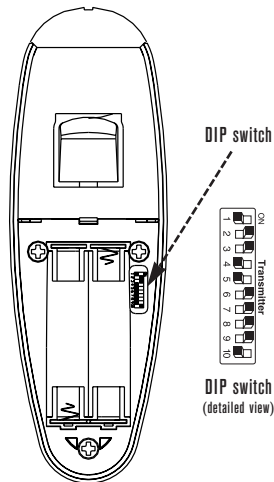

Figure 13
The DIP switch for MX2(L), MX3(L), MX4(L), and MX4A(L) transmitters is shown in Figure 13.